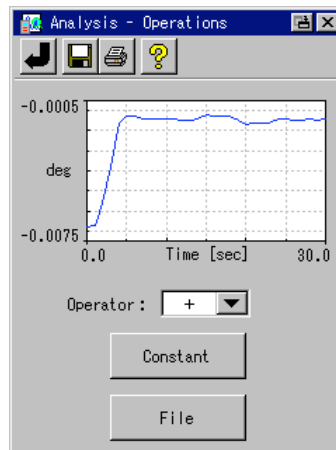

Figure 5.20 Arithmetic operation window
- 1) Press the <Operations> button in the analysis window. If the data is not saved, after confirming the data saving, the window shown in Fig. 5.20 is displayed.